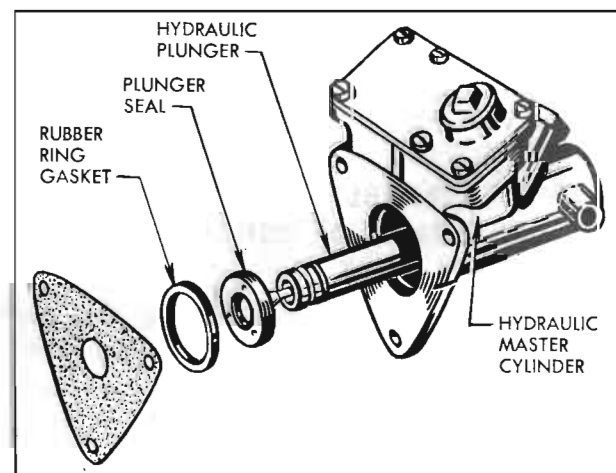

Figure 9-36—Removing Vacuum Cylinder from Hydraulic Cylinder
13. Remove three vacuum cylinder attaching screws and lockwashers. Lift off vacuum cylinder. Remove vellumoid gasket and rubber ring gasket. See figure 9-36.
8. Place new vellumoid gasket on machined face of hydraulic cylinder. Then install vacuum cylinder with air cleaner holes up. See figure 9-36. Wipe out inside of vacuum cylinder and then pull out hydraulic plunger to end of stroke.